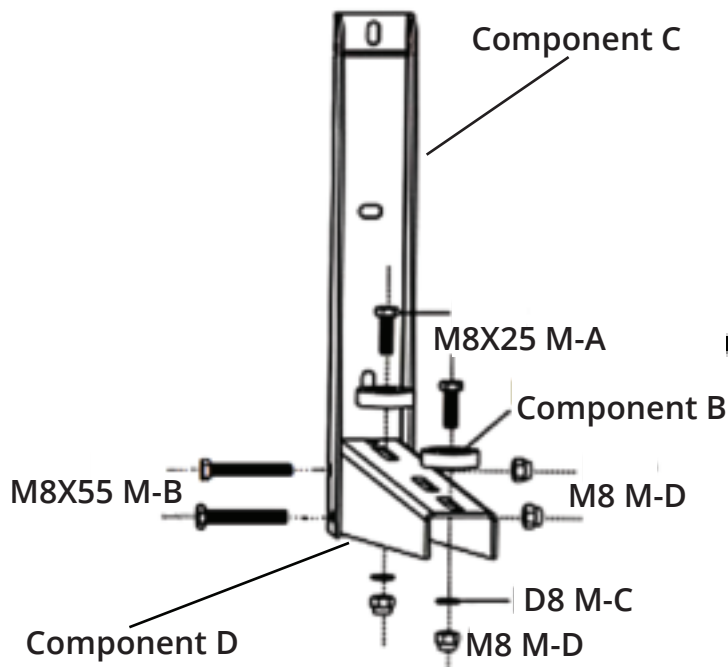

Fig. 2.1
1. Take one of component C and one of component D. Using **Fig. 2.1** below as a guide, stand component C upright and insert component D into the bottom of component C. Make sure to align the four bolt holes (two on each side) at the bottom component C with the corresponding holes of component D. Component C and component D should be perpendicular from one another creating an "L" shape.
4. Next, take two bolts (component M8x25 M-A) and place washers (component B) onto them. Then, insert the bolts with washers into the front and rear slide holes on the top of component D. Next, put washers (component M-C) on the ends of each bolt and then secure with nuts (component M-D). **DO NOT overtighten the nuts.** Please refer to **Fig. 2.1**.